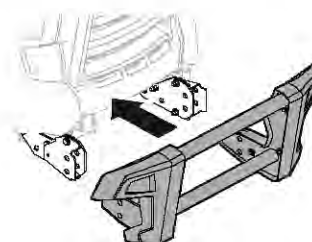

Figure 16
- Align the brush guard assembly with the FastAttach™ brackets and push assembly together. See Figure 16.